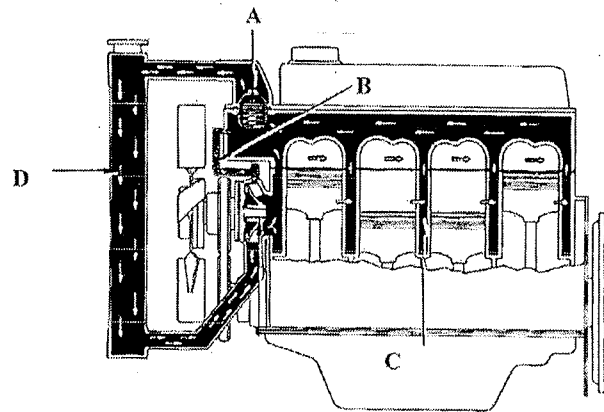

Figure Q3: Schematic of an Automotive Cooling System
I. The figure Q3 illustrates a schematic of an automotive cooling system